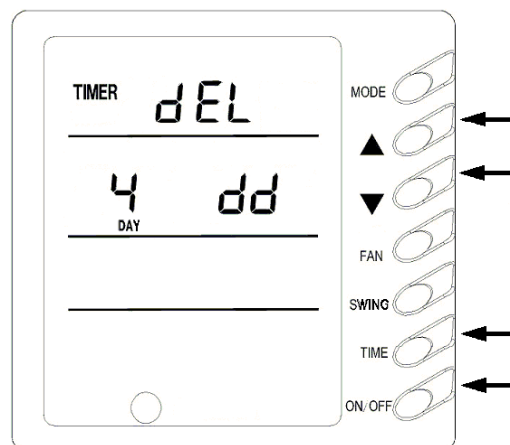

Fig.13
- ❖ In deleting timing status, press ▲ or ▼ button to select one day of a week, and then press TIMER button to confirm ,in which case, "dd" is displayed .The day also can be canceled by pressing TIMER button without "dd" displayed. At last, press ON/OFF button to quit the setting after finish.(Fig.13)